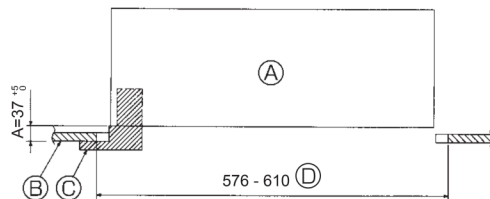

Fig. 10-2
②	Screw with washer	4	M5 × 0.8 × 25 (mm)
③	Gauge	1
④	Junction wire for signal receiver	1	Included when equipped with the signal receiver.
⑤	Junction wire for i-See sensor	1	Included when equipped with the i-See sensor.
⑥	Fastener	2	Included when equipped with the signal receiver.
⑦	Fastener	2	Included when equipped with the i-See sensor.
⑧	Wireless remote controller	1	Included when equipped with the wireless remote controller.
⑨	Remote controller holder	1	Included when equipped with the wireless remote controller.
⑩	LR6 AA batteries	2	Included when equipped with the wireless remote controller.
⑪	3.5 × 16 tapping screws	2	Included when equipped with the wireless remote controller.
10.2. Preparing to attach the grille (Fig. 10-2)